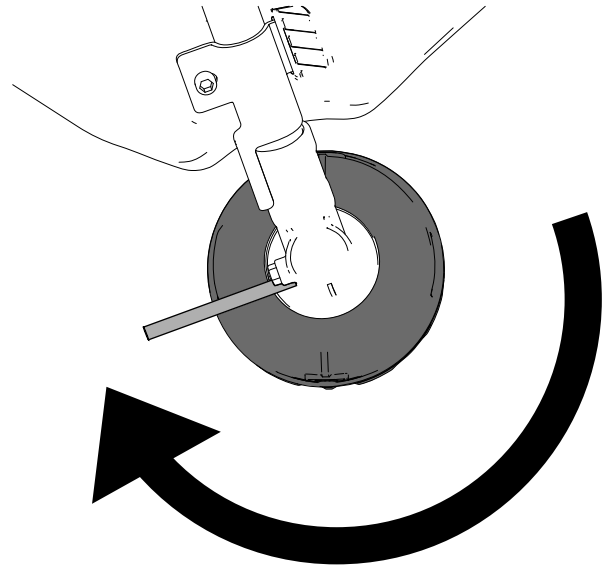

**Figure 15**
2. Align the hole in the cup plate with the hole in the trimmer gearcase (Figure 15).
3. Insert the included metal rod through the cup plate and into the hole in the trimmer gearcase to secure the trimmer head (Figure 15).